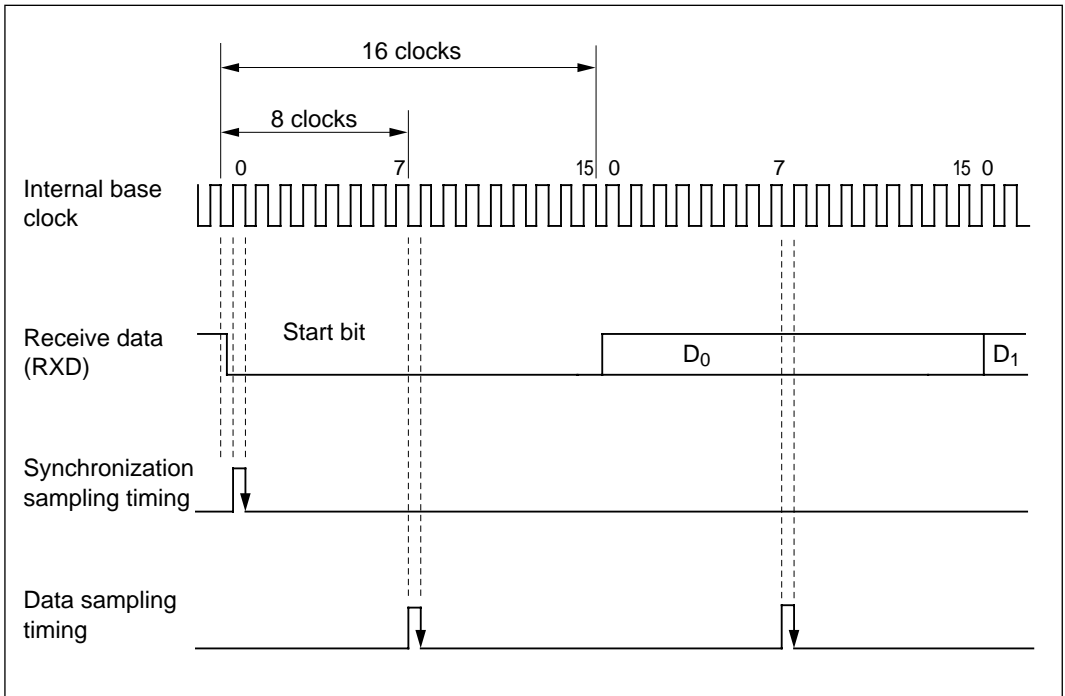

Figure 14-21 Receive Data Sampling Timing in Asynchronous Mode
(5) Receive Error Flags and Transmitter Operation (Clocked Synchronous Mode Only): When a receive error flag (ORER, PER, or FER) is set to 1, the SCI will not start transmitting even if TE is set to 1. Be sure to clear the receive error flags to 0 when starting to transmit. Note that clearing RE to 0 does not clear the receive error flags.
(6) Receive Data Sampling Timing in Asynchronous Mode and Receive Margin: In asynchronous mode the SCI operates on an base clock with 16 times the bit rate frequency. In receiving, the SCI synchronizes internally with the falling edge of the start bit, which it samples on the base clock. Receive data are latched on the rising edge of the eighth base clock pulse. See figure 14-21.